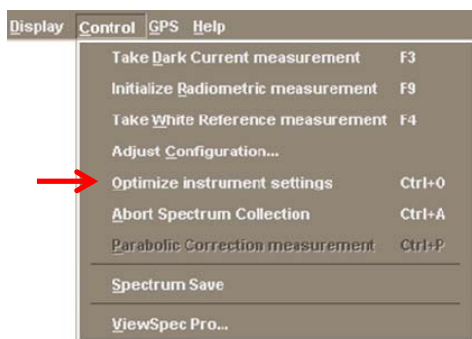

Figure 3-16: Optimization in pull-down menu
- Or use the keyboard command [Ctrl+O]. Or select “Optimize instrument settings” from the Control pull-down menu (Figure 3-16).